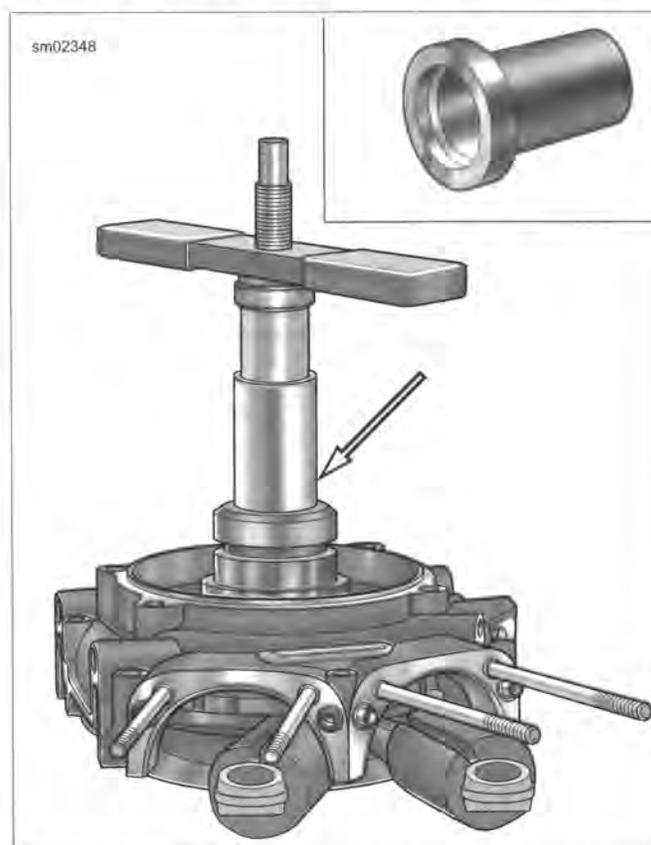

Figure 3-139. Sprocket Shaft Oil Seal Installer
- See Figure 3-139. Install **new** oil seal into bearing bore. Obtain pilot adapter, pilot shaft, short collar, bearing, large